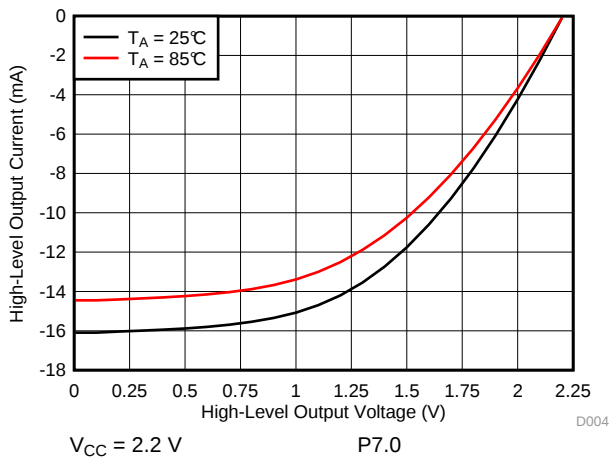

Figure 5-21. High-Level Output Voltage vs High-Level Output Current
| V OHHigh-level output voltage (see Figure 5-21 and Figure 5-22)         | I (OHmax) = –1 mA (1)                                          | 2.2 V           | V CC – 0.25 | V CC        | V    |